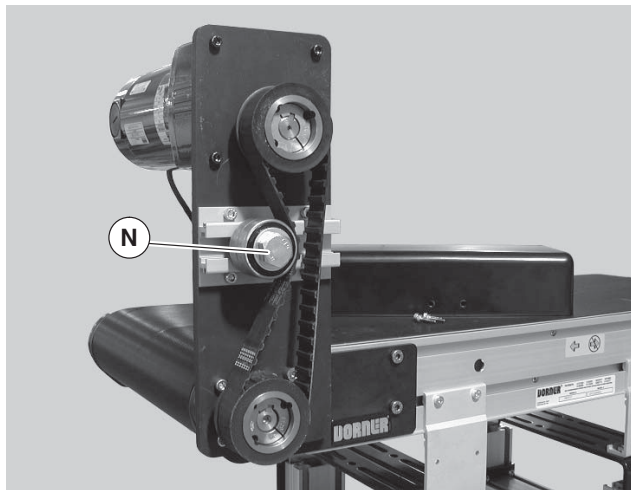

Figure 10
2. Loosen tensioner (Figure 10, item N).